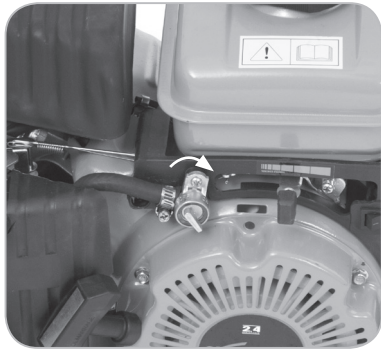

Fig. 4
- Turn the fuel tap lever to the 'On' position. (**Fig. 4**)